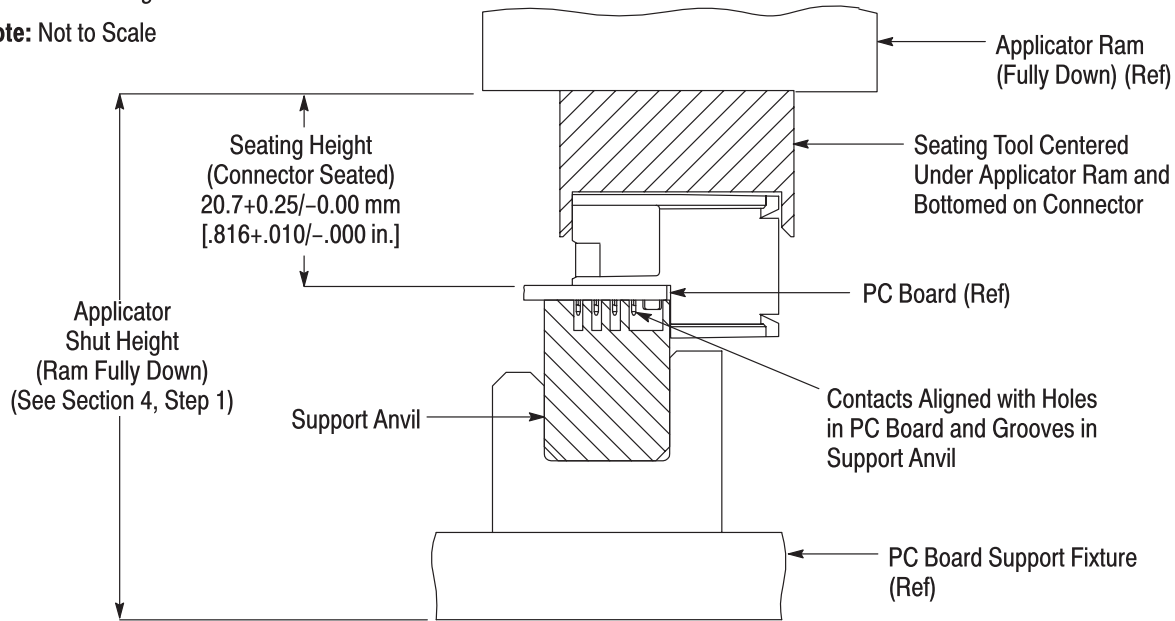

Figure 2
1. Set seating height to the dimension shown in Figure 2 (applicator *shut height* will equal the seating height PLUS the combined thicknesses of the pc board, support anvil, and pc board support).
3. Position the connector into pc board so that contacts are properly aligned to the pc board and support anvil. See Figure 2.
7. Cycle applicator ram according to instructions for the power source. Check assembly for proper seating using the requirements in Figure 2.